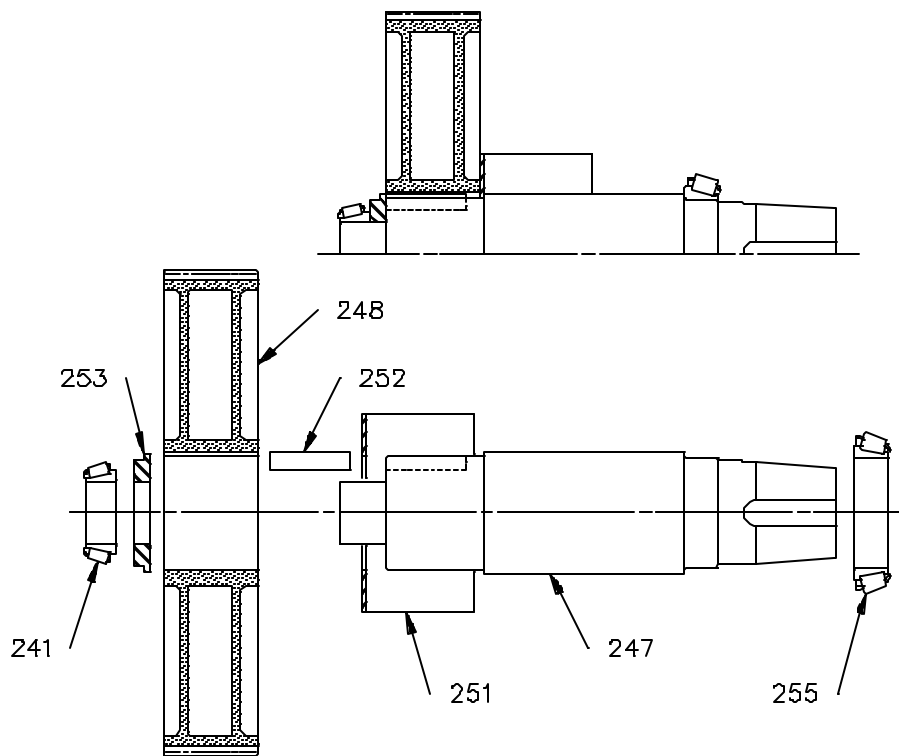

Figure 3: Output Shaft Assembly [246]
10. Install an eyebolt in the end of output shaft **[247]**. Lift output shaft assembly **[246]** (*Figure 3, page 6*) out of the housing.